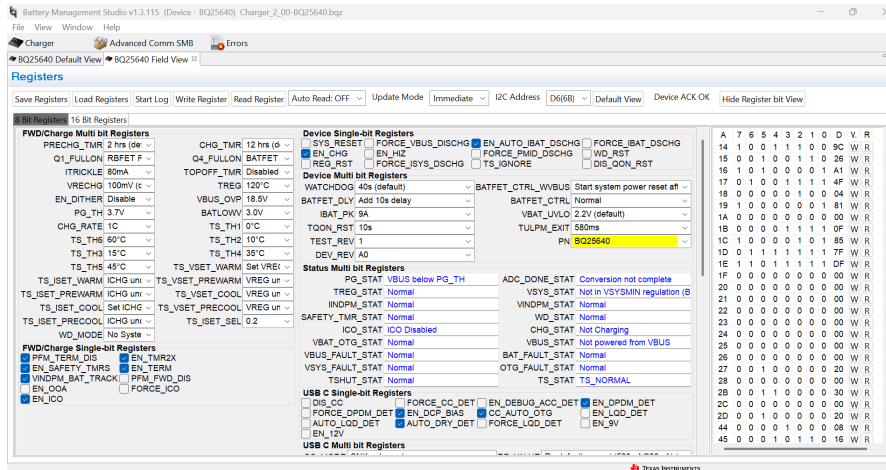

Figure 3-3. Main Window of BQ25640 EVM Software
3. Choose  , on the window that appears, and the main window of the BQ25640 EVM software appears, as shown in Figure 3-3.
2. In the Field View (see Figure 3-3), make the following changes as necessary: